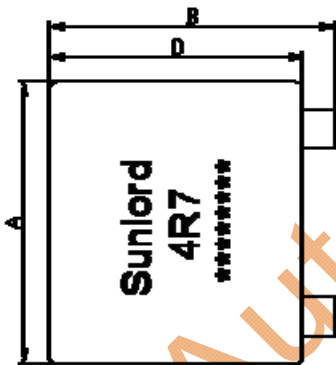
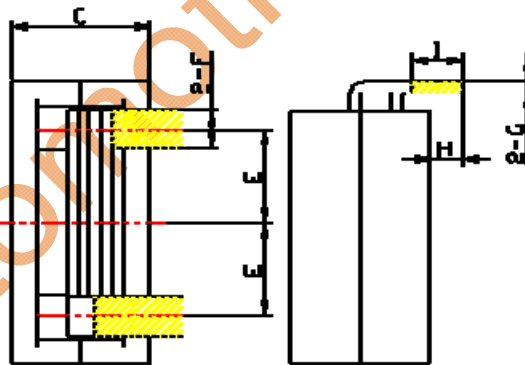
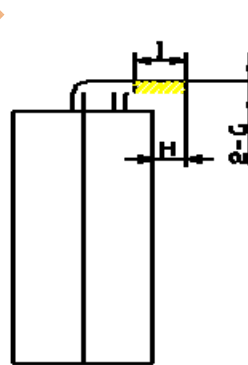

Fig.3-1
Fig.3-2
Fig.3-3
3.1 Dimensions , please see Fig.3-1, Fig. 3-2, Fig. 3-3 and Table 3-1.